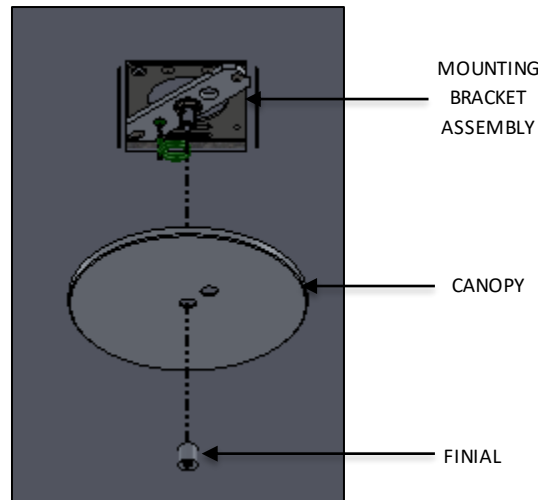

FIG. 25 – CANOPY INSTALLATION
- Loosely secure CANOPY to the ceiling by threading the FINIAL to the MOUNTING BRACKET ASSEMBLY as shown below in FIG. 25.